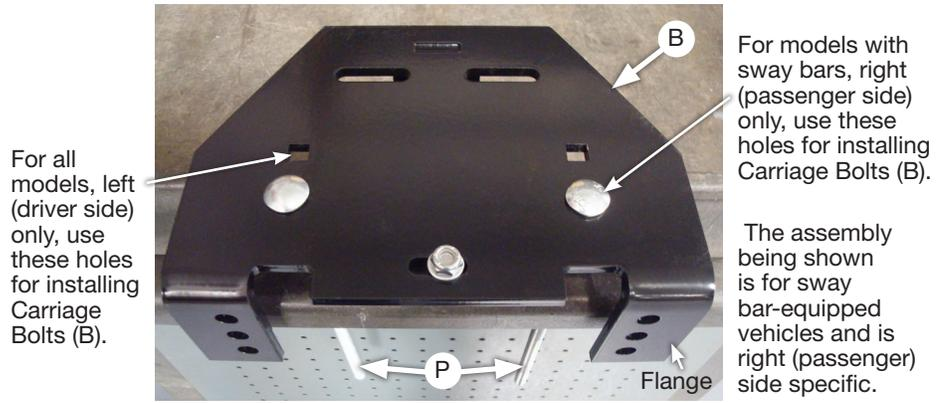

Fig. 12
5. Insert two 3/8"-16 X 10" carriage bolts (P) through the square holes in the lower bracket main plate (B) as shown. **For models with sway bars:** use the holes farthest away from the flanges for the left (driver's) side and the holes closest to the flanges for the right (passenger's) side installation (Fig. 12). **For all models without sway bars:** use the square holes farthest away from the flange for both sides of the installation.